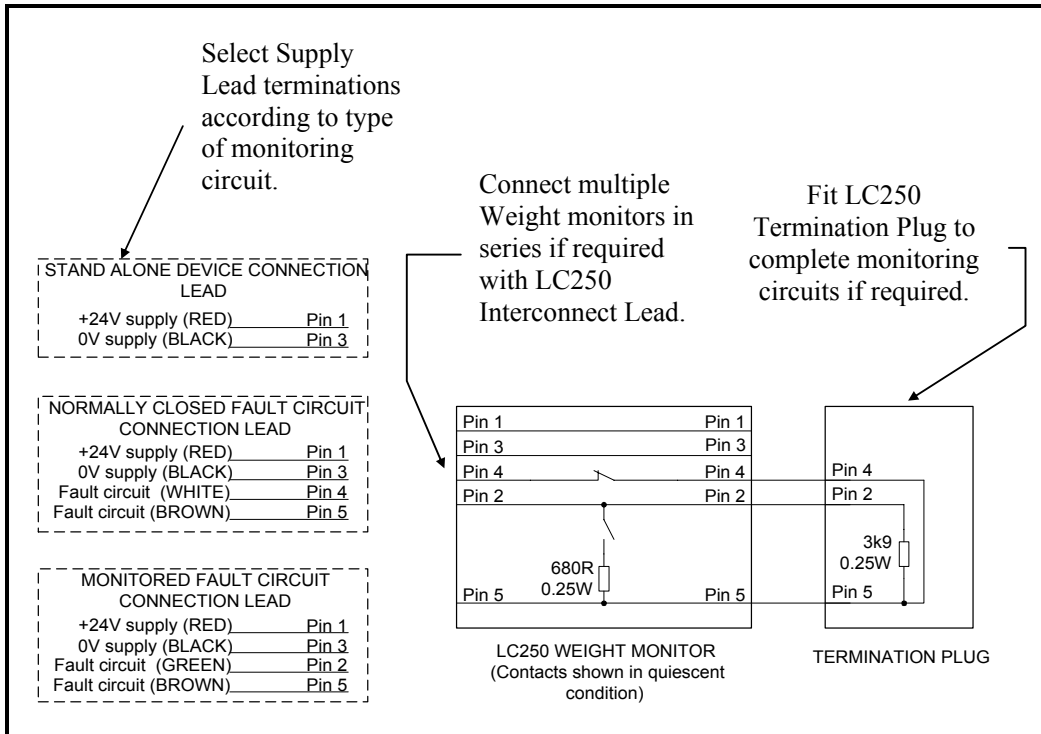

Figure 1 - Termination Details For The LC250 Weight Monitor System
8. Terminate the cores of the supply lead as shown in Figure 1.
9. Fit the Termination plug to the spare DIN socket on the last device if required. This plug is used to complete the monitoring circuits as shown in Figure 1.